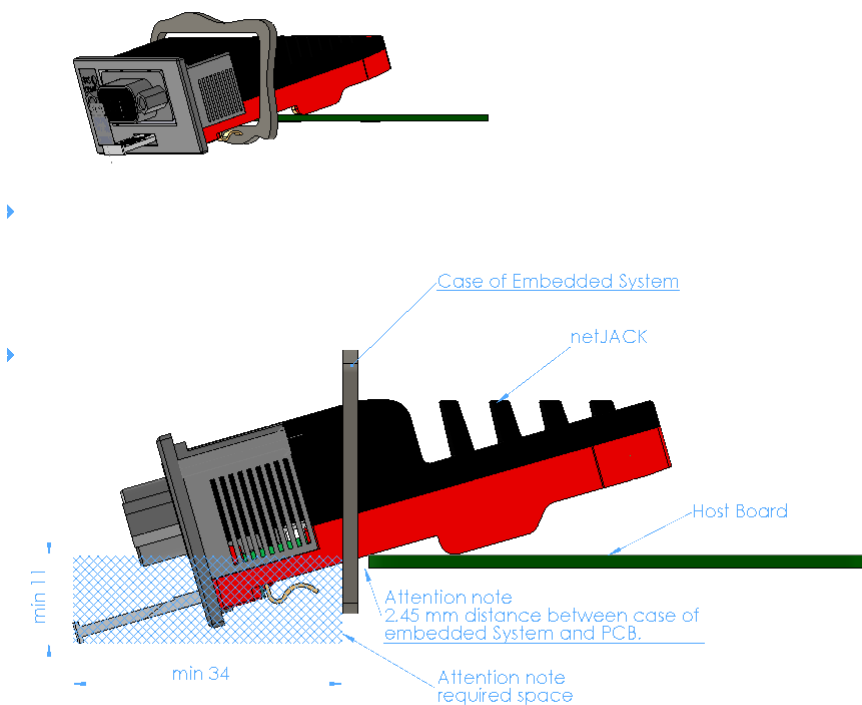

Figure 9: Necessary Space Requirements for Mounting/demounting the netJACK Communication Module
Figure 9 below illustrates how to insert a netJACK Communication Module as embedded system into its host device and how much free space is required in front of the front panel of your device in order to “plug in” the netJACK module without any spatial problems.
The upper part of Figure 9 shows a perspective view on the cut-out in the front panel of the device in which to mount the netJACK module.
- This free space must at least extend (in vertical direction) from the lower edge of the cut-out in the front panel to 11 mm below this point. It is marked in *Figure 9* with square grid of light blue lines.